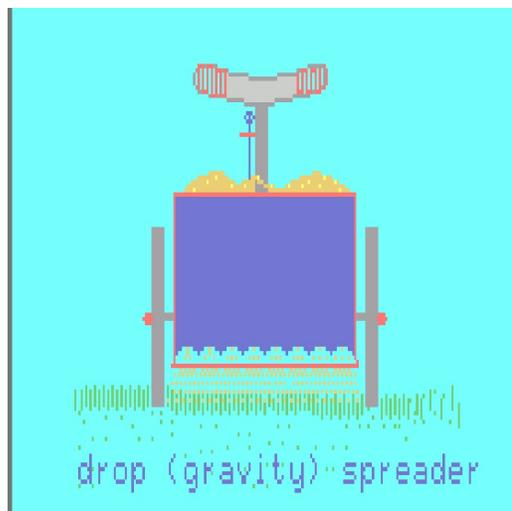
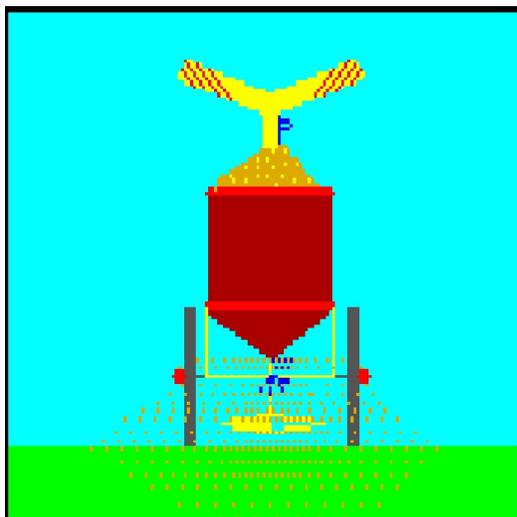

Figure 1.
Figure 2.
Fertilizer application is only effective if you ensure uniform coverage (Plate 22). Dry fertilizers can be applied with either a drop (gravity) spreader (Figure 1) or a rotary (centrifugal) spreader (Figure 2).
Follow these steps, in order, to calibrate your drop-type (gravity) spreader (Figure 1).
3. Rotary spreaders (Figure 2) do not apply a constant amount of material across the entire width of application. More material is applied toward the center and less at the edges. For this reason, the width of application is accurate for a constant application rate only at about  $\frac{2}{3}$  (60 to 70%) of the actual width measured. *Example:* If the application width is 12 feet, only about 8 feet or 4 feet across both sides of the spreader, within the band of application, is receiving approximately the same application rate. The other 2 feet on each edge respectively receive much less material than the center area. Once this "effective" width is determined, calibration is fairly simple.